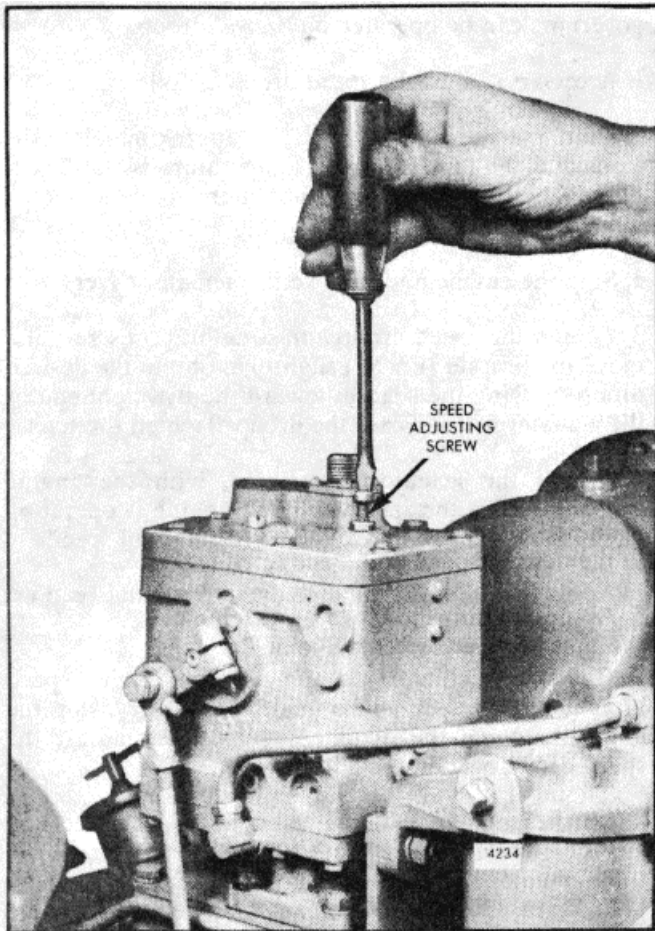

Fig. 5. - Adjusting Maximum No-Load Engine Speed
3. Turn the speed adjusting screw until the desired speed is obtained (Fig. 5). Turning the screw counterclockwise will decrease the speed setting.